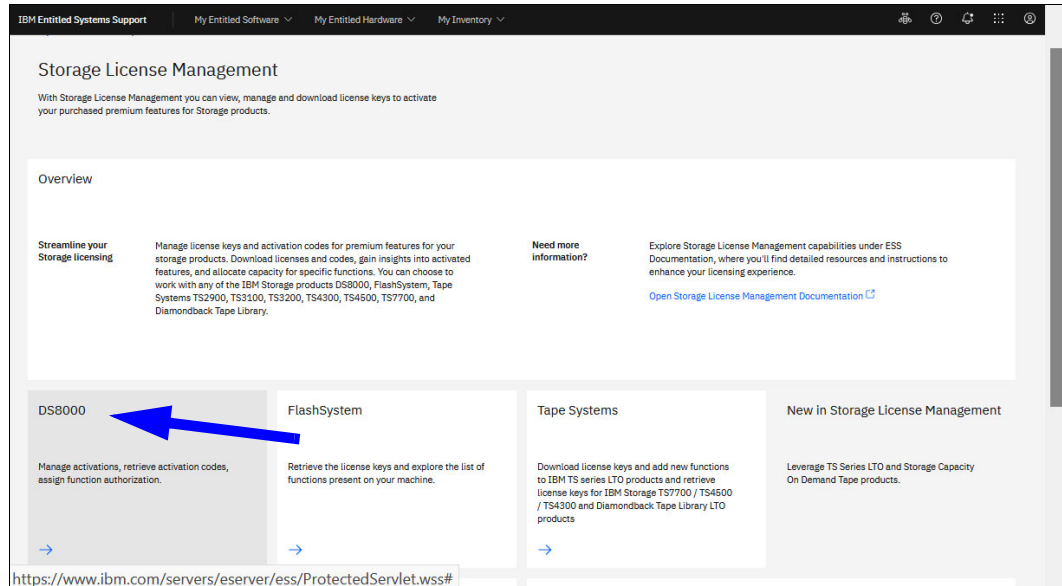

Figure 7-12 ESS Storage License Management
2. Proceed to **My Entitled Hardware** → **Storage License Management**, as shown in Figure 7-12. Watch out for DS8000.